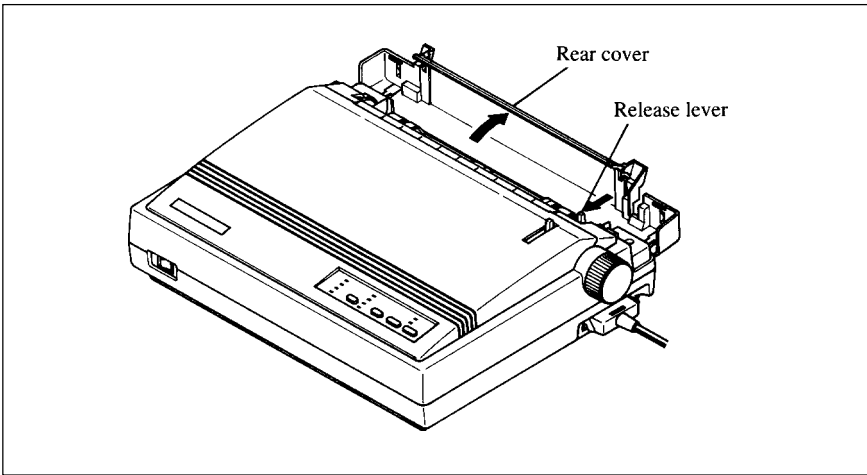

Figure 3-4. Opening the rear cover.
4. Open the rear cover using the two grips on either side, as in Figure 3-4.